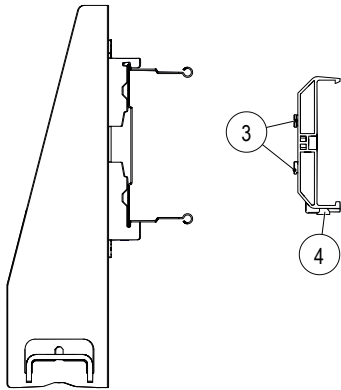
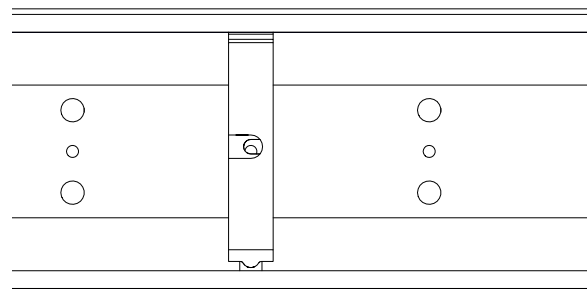

Fig. 63: Locking pin (4) and pin (3) of hanger clamp 0812
Fig. 66: Install hanger clamp 0831 onto ProShell support profile rail
1. Hook the locking pin (4) of the hanger clamp onto the lower frame of the ProShell support profile so that by screwing in the hanger clamp, the two pins (3) are sunk into the holes of the ProShell support profile (see Fig. 63 to Fig. 66).